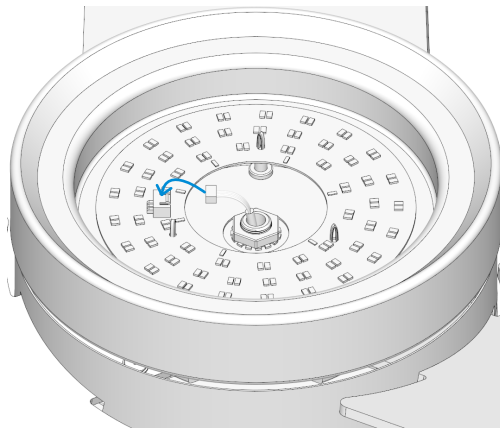

Fig. 3.3
3.3 Insert the wire plug into the light kit terminal block, as shown in Fig. 3.3.